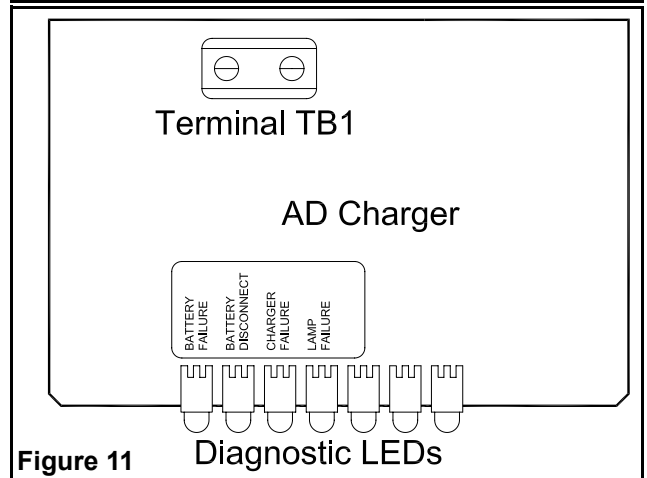

Figure 11
7. For unit with remote capacity, connect remote heads to terminal block TB1 (see figure 11).
Internal: Battery Failure, Battery Disconnect, Charger Failure & Lamp Failure. Steady ON if alarm condition exists. (see figure 11).